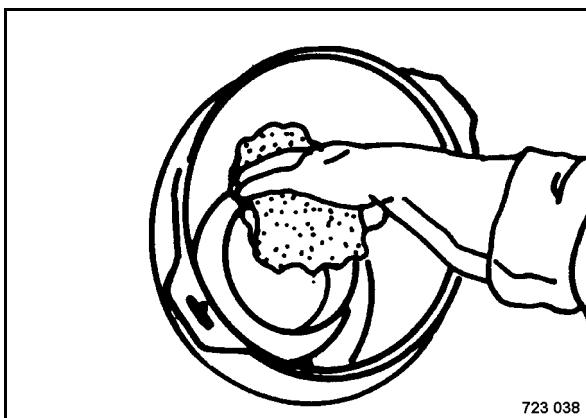

Fig. 136
- Clean the sealing face on the outlet tube (Fig. 136).